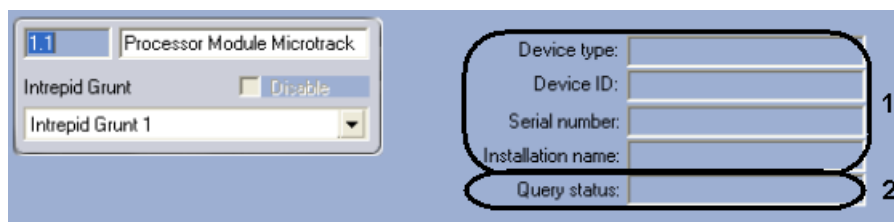

Fig. 3.3—3 Information about a Microtrack processor module
2. View information about the connected processor module: type, ID, serial number, and installation name (see Fig. 3.3—3, 1).